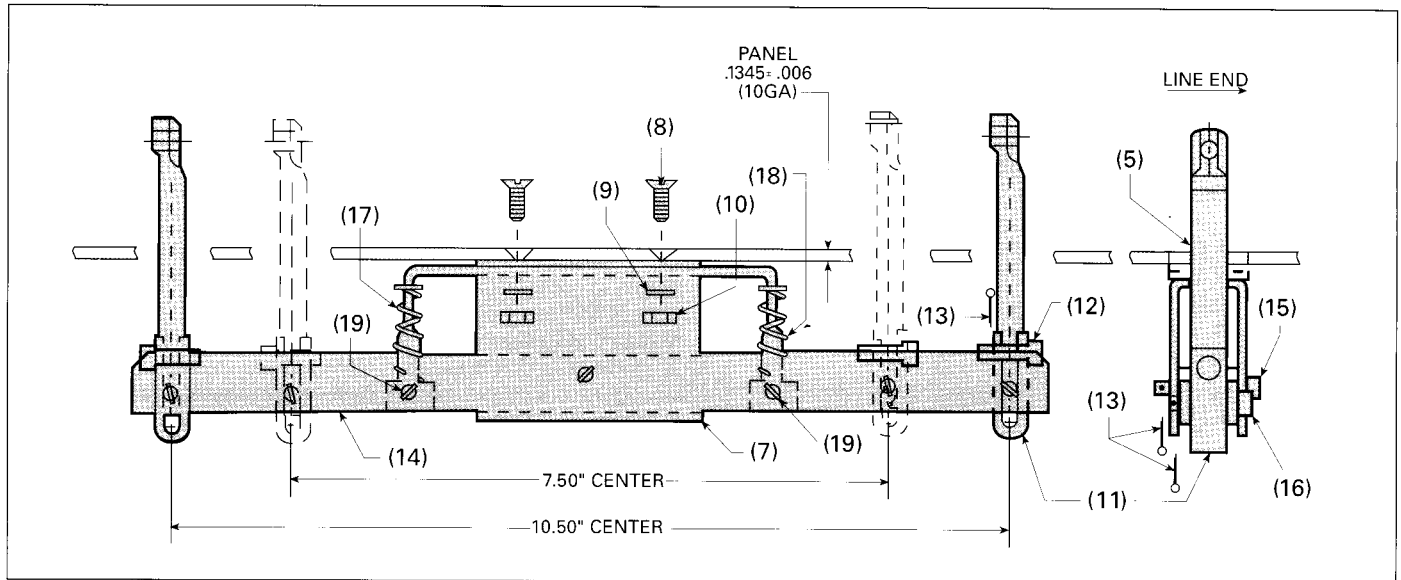

Figure 5
Attach Bracket and Circuit Breakers (Figure 5)
Rocker Arm Assembly (Figure 5)
12. Assemble plunger connectors (11) to end of plungers (5) and insert .188" dia. x .74" pins (12) through plunger connector (11) and plunger (5). Insert cotter pins (13) into hole of pins (12) and spread ends.
13. Attach rocker arms (14) to bracket (7) using .188" dia. x 1.38" pin (15) as shown. Insert cotter pin (13) into hole of pin (15) and spread ends.
14. Attach rocker arms (14) to plunger connectors (11) using .188" dia. x 1.09" pin (16) as shown in Fig. 5. Insert cotter pin (13) into hole of pin (16) and spread ends.
15. Attach springs (17) to bracket (7) and secure to rocker arms (14) using spring adapters (18) and 1/8" dia. x 1-1/2" cotter pin (19) and spread ends.